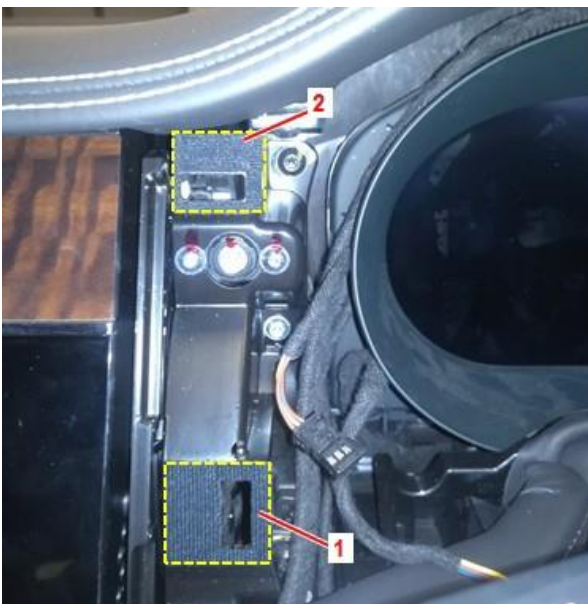

Figure 18
With the fascia panel removed, apply anti-creak tape around the entire perimeter of the opening section of the appropriate receiving hole as shown in Figure 18.
*Note. Apply anti-creak tape at position (1) to push the bottom of the fascia panel out and position (2) to push the top of the fascia panel out. See Figure 18.*